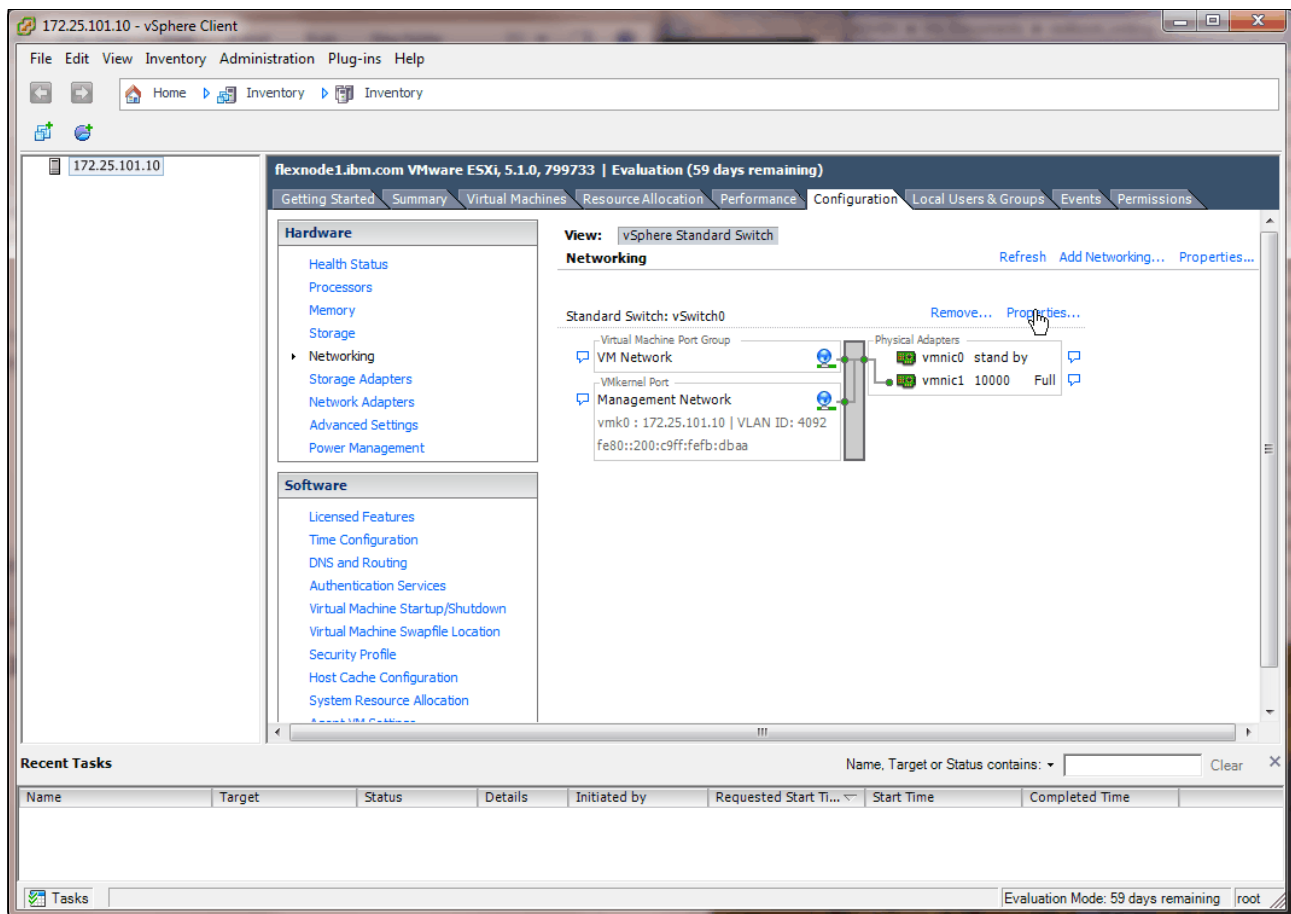

Figure 5-14 Configuration pane showing NIC card status
2. After logging in, click the **Configuration** tab then **Networking** under the Hardware panel. Notice that one of our NICs is in a standby mode, which we adjust to a more appropriate active-active mode. Click the **Properties** field for vSwitch0, as shown in Figure 5-14.